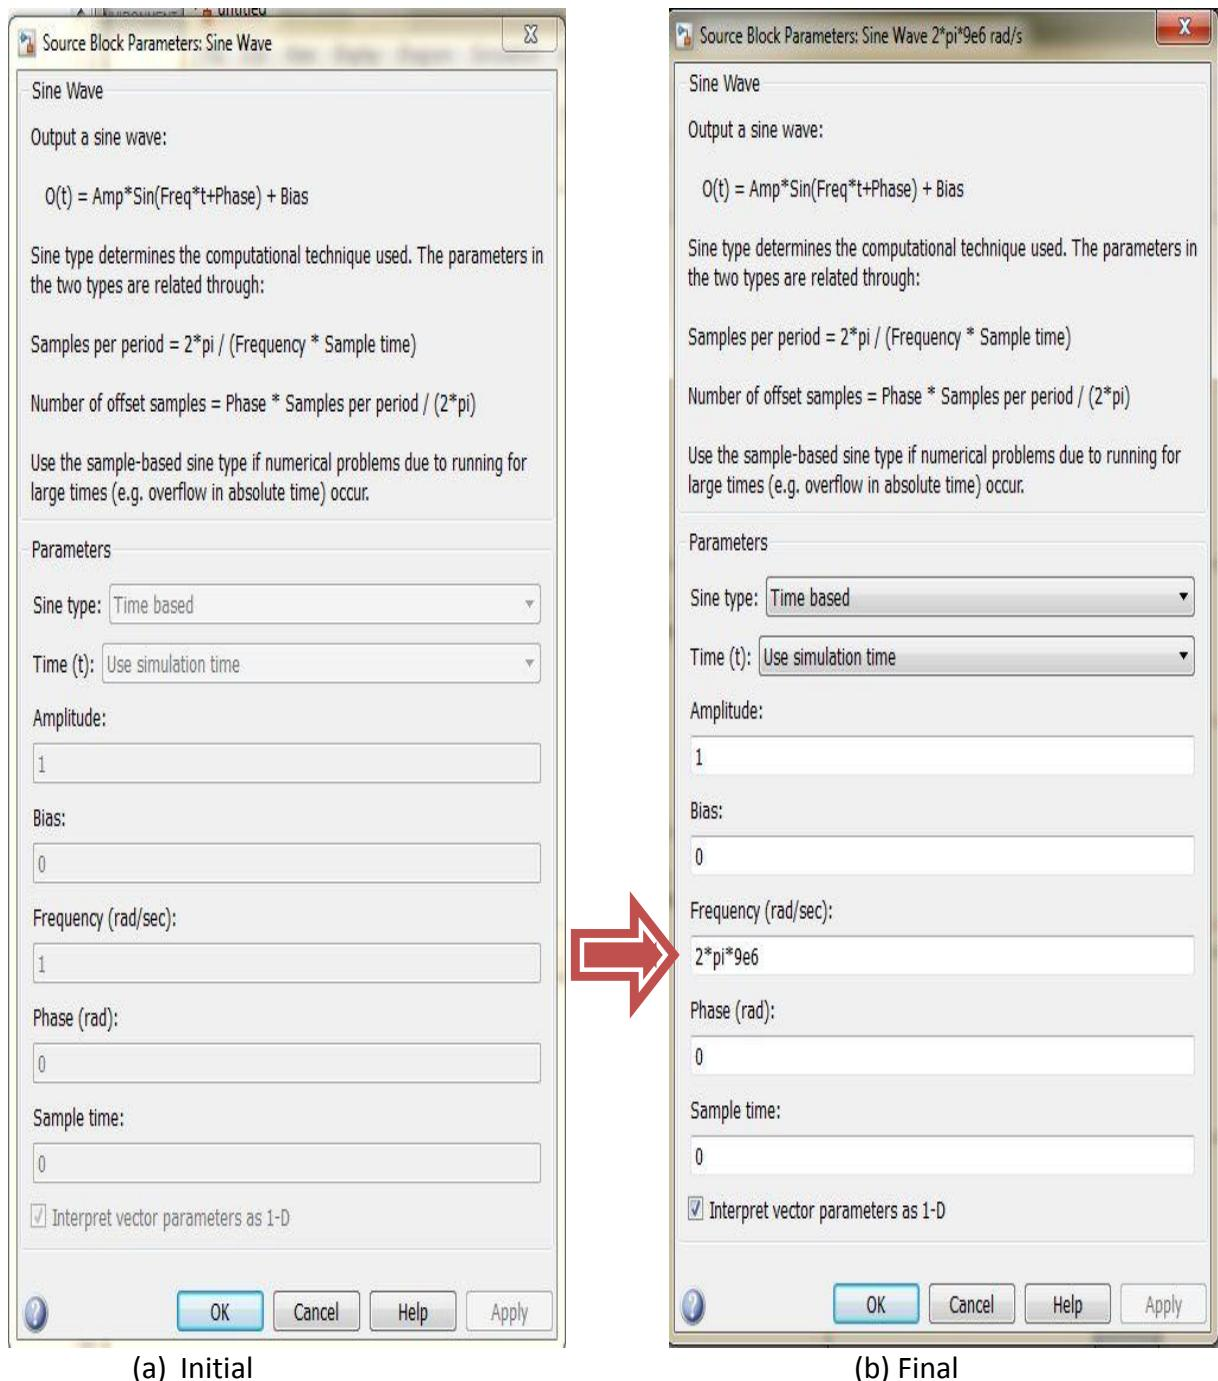

Figure 9: Sine Wave Source of frequency $2\pi \times 9 \times 10^6$ rad/s
1. For the block **Sine Wave 2*pi*9e6 rad/s**: We have changed **Frequency (rad/sec)** to **2*pi*9e6** as shown in the figure 9.